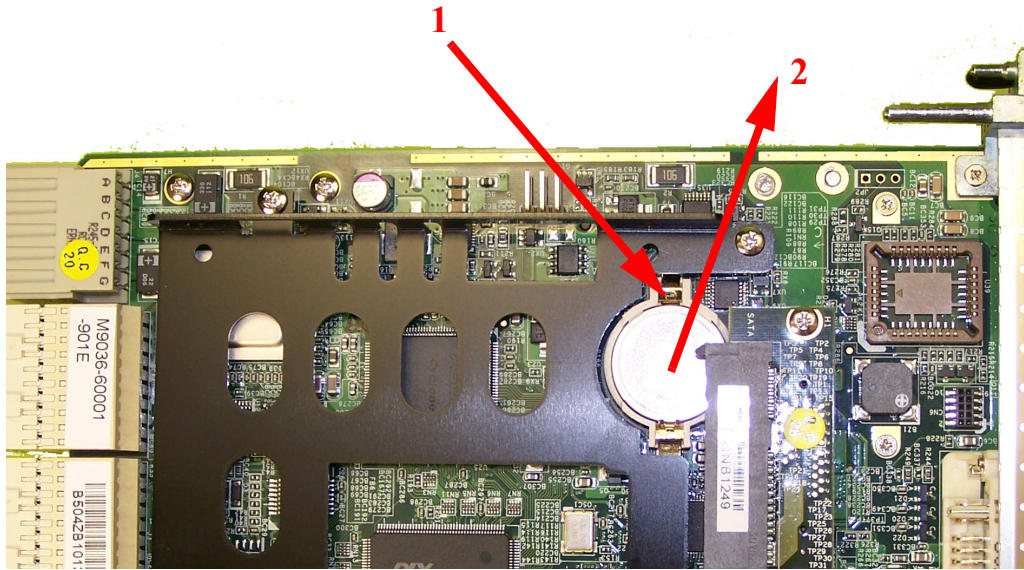

Figure 15 Replacing the Battery
- 5 Remove the battery (see Figure 15 below). Press the battery release latch (1). The battery should pop out (2).